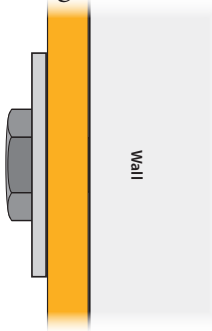
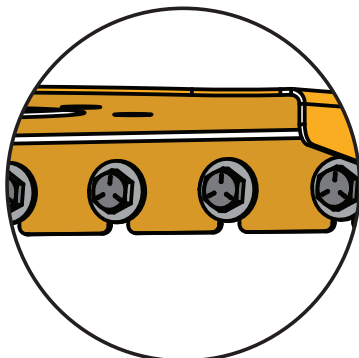

FIG. 7a
FIG. 7b
Tighten these fasteners to secure the Wall Bracket (F) to the wall [FIG. 7a]. For further support, drill and install fasteners through as many of the reinforcing slots as necessary. [FIG. 7b]